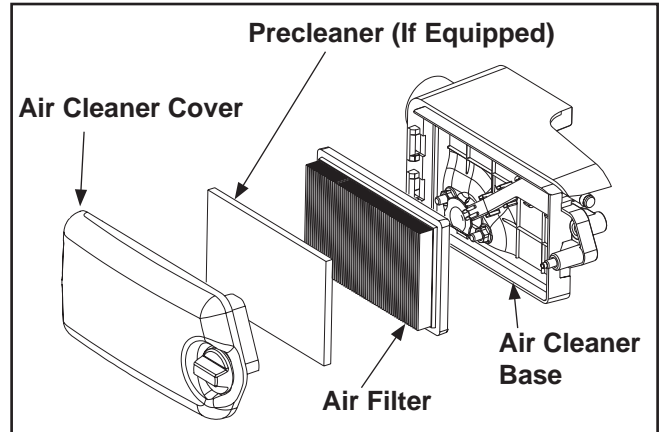

Figure 17. Air Cleaner Assembly – Exploded View.
This engine is equipped with either a replaceable, high density paper air filter, or a foam air filter, depending on the application. In addition, an optional foam precleaner may also be included. See Figure 17.
1. Remove the air cleaner cover, the paper air filter, and the precleaner, if equipped. See Figure 17.
1. Remove the air cleaner cover, the foam air filter, and the precleaner, if equipped. See Figure 17.
2. Loosen the air cleaner cover knob and remove the cover. See Figure 17.